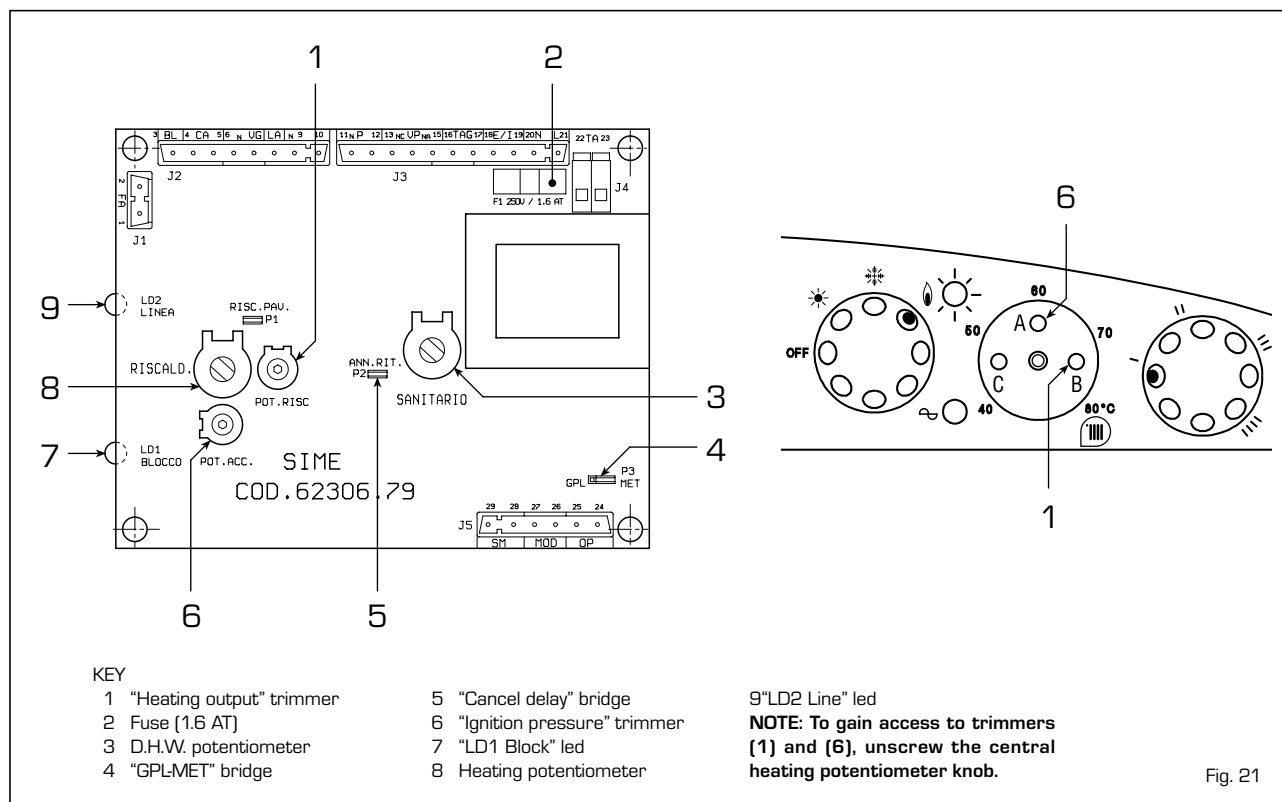

Fig. 21
the trimmer [1 fig. 21]. At start-up of each working cycle, after the period of slow ignition having a duration of approx. 5 sec, the boiler will set itself at the heat output set on the "Minimum heating pressure" trimmer.
that can cause an irregular and/or improper operation of the appliance. The leds are located on the card as indicated in fig. 21 and marked with the following wording:
- "POT. RISC." trimmer [1 fig. 21]
- "POT. ACC." trimmer [6 fig. 21]
– **"GPL-MET" connector** (4 fig. 21)
– **"ANN. RIT." connector** (5 fig. 21)